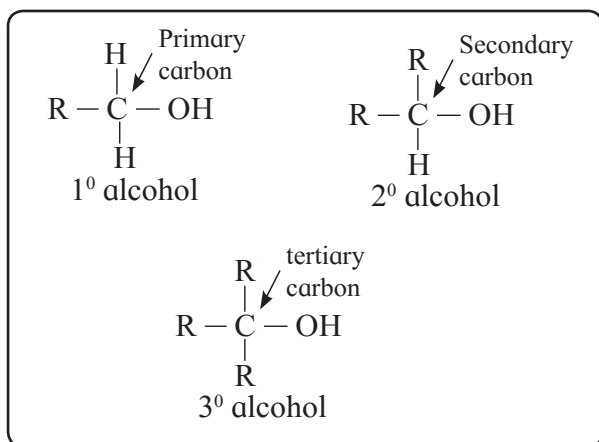

Fig. 11.1 : Primary, secondary and tertiary alcohols
a. Alcohols containing sp³C - OH bond : In these alcohols -OH group is attached to a sp³ hybridised carbon atom of alkyl group. These alcohols are further classified as primary (1^o), secondary (2^o) and tertiary (3^o) alcohols in which -OH group is attached to primary, secondary and tertiary carbon atom respectively. (see Fig. 11.1), refer to Std. XI Chemistry Textbook Chapter 14, sec. 14.3.2)